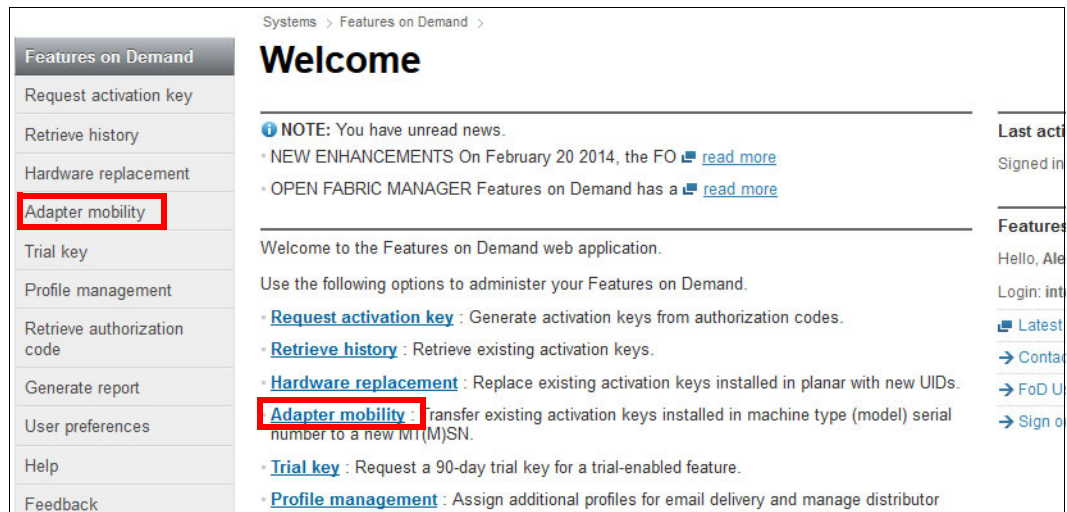

Figure 5-13 Adapter mobility menu
- To access the Adapter mobility menu, select **Adapter mobility** from the center of the page or from the left navigation pane, as shown in Figure 5-13.